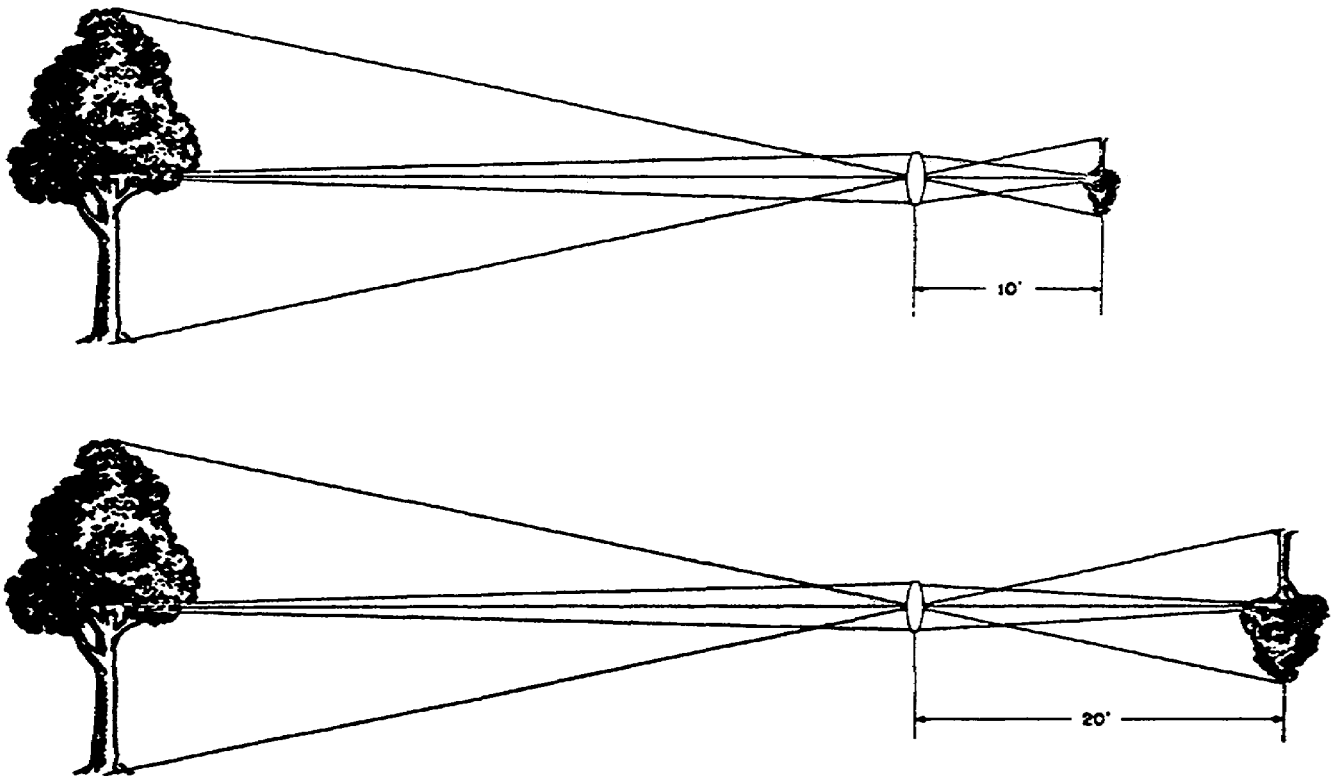

Figure 2-18. Size of image in relation to focal length.
a. If the subject distance remains constant, the focal length of a lens controls the size of an image on the film. A short focal length lens has a wide angle of view and produces, without changing the negative size, a smaller image than a long focal length lens. When two lenses of different focal lengths are used with the same film size, the lens with the longer focal length includes less of the subject area. However, any subject detail in that area appears larger than it would if photographed with a shorter focal length lens, (fig 2-18).